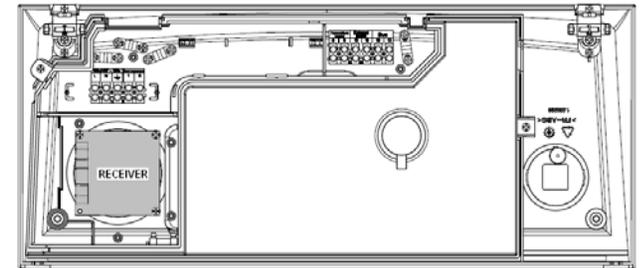

Fig 4
- b. Remove the three screws securing the clock cover at the rear of the control panel and remove the cover. Fig 4.